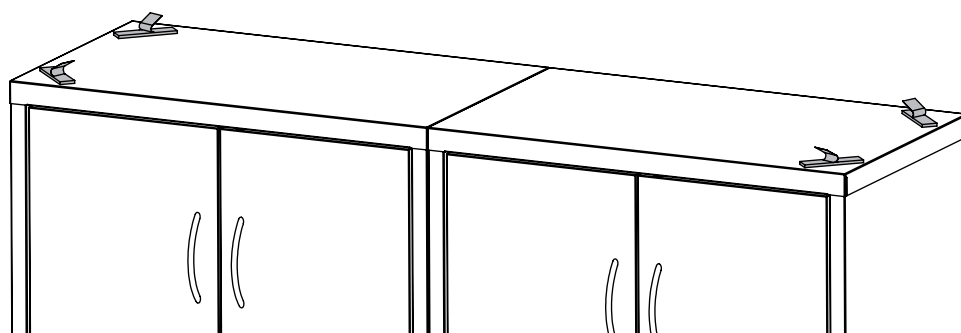

Fig. 1
2. Remove one side of plastic tape backing and place one piece of double-sided tape 1"-2" in from each corner of the cabinet base. [Fig. 1]